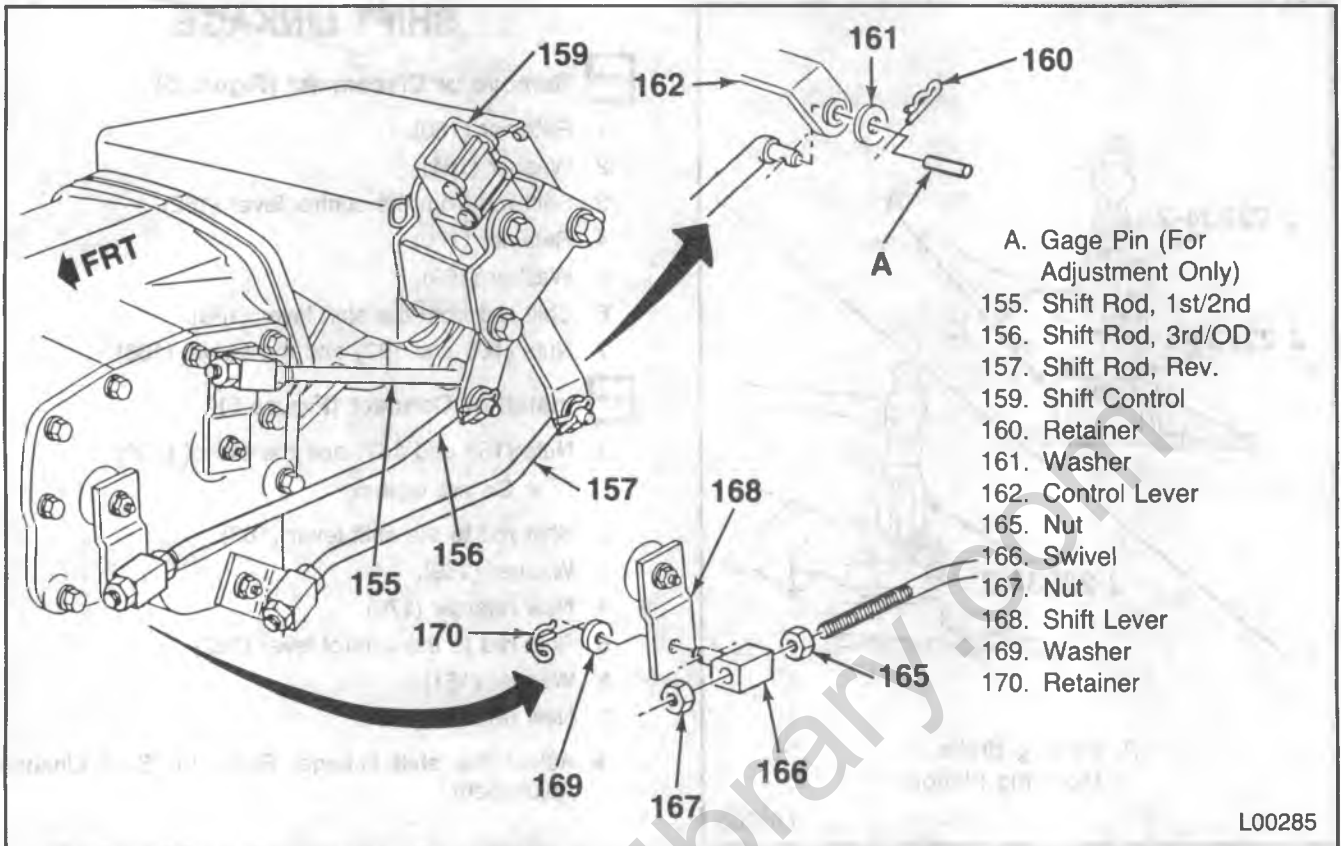

Figure 5 — Floor Shift Linkage (89MM 4 Speed OD)
Remove or Disconnect (Figure 5)
Install or Connect (Figure 5)
Adjust (Figure 5)
1. Knob (175) and the nut (176).
2. Screws (186) and the boot (178).
3. Shift control lever (158).
4. Shift rods at the control (figure 5).
5. Screws (183) and the fitting (184).
- The screw with the large shoulder is a locating screw and must be installed in the rear-center hole (A).
- The lubrication fitting must point to the corner shown (A).
6. Shift rods at the control (figure 5).
7. Shift control lever (158).
8. Boot (178) and the screws (186).
9. Nut (176) and the knob (175).
- 2. Harnesses (206) as used.
- 3. Shift rods (figure 5).
- 4. Nut (202), the washer (201) and the reverse shift lever (200).
- 5. Seal (209).
- 6. Screws (212), spring washers (213) and the brackets (214).
- 7. Side cover (205).
- 5. New seal (209).
- 6. Reverse shift lever (200), the washer (201) and the nut (202).
- 7. Shift rods (figure 5).
- 8. Harnesses (206) as used.